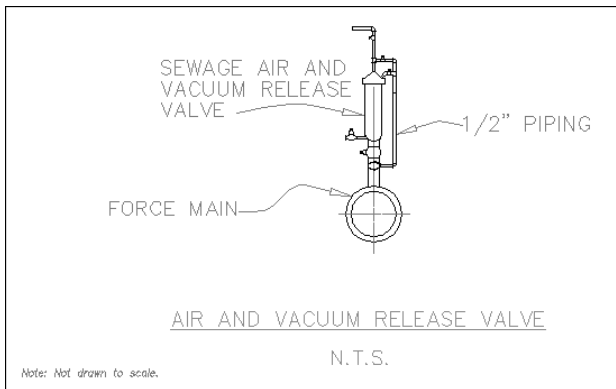

Figure 13-14: The addition of text using a new text style.
6. Save your drawing. It should look like Figure 13-14. If you're going on to the next exercise, keep this drawing open.